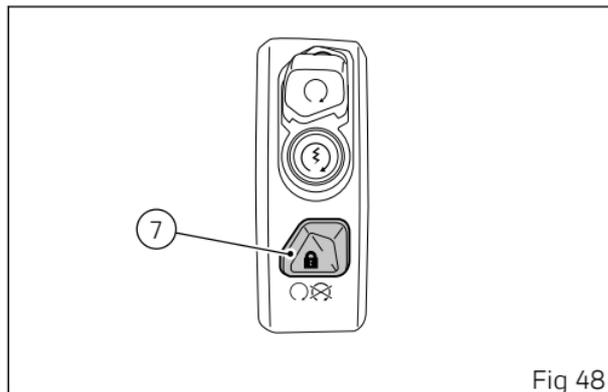

Fig 48
Key-Off occurs when the speed of the motorcycle is equal to zero, by pressing button (7, Fig 48) on the handlebar or by pressing the Hands free unit button (1). When speed is not equal to zero, perform key-off by pressing the Hands free unit button (1).
Key-On can be performed by pressing button (1) on the hands free unit, without the presence of the keys (3) and (4) and entering the PIN code (see, page 95). Key-Off can be performed by pressing button (7, Fig 48) on the handlebar.